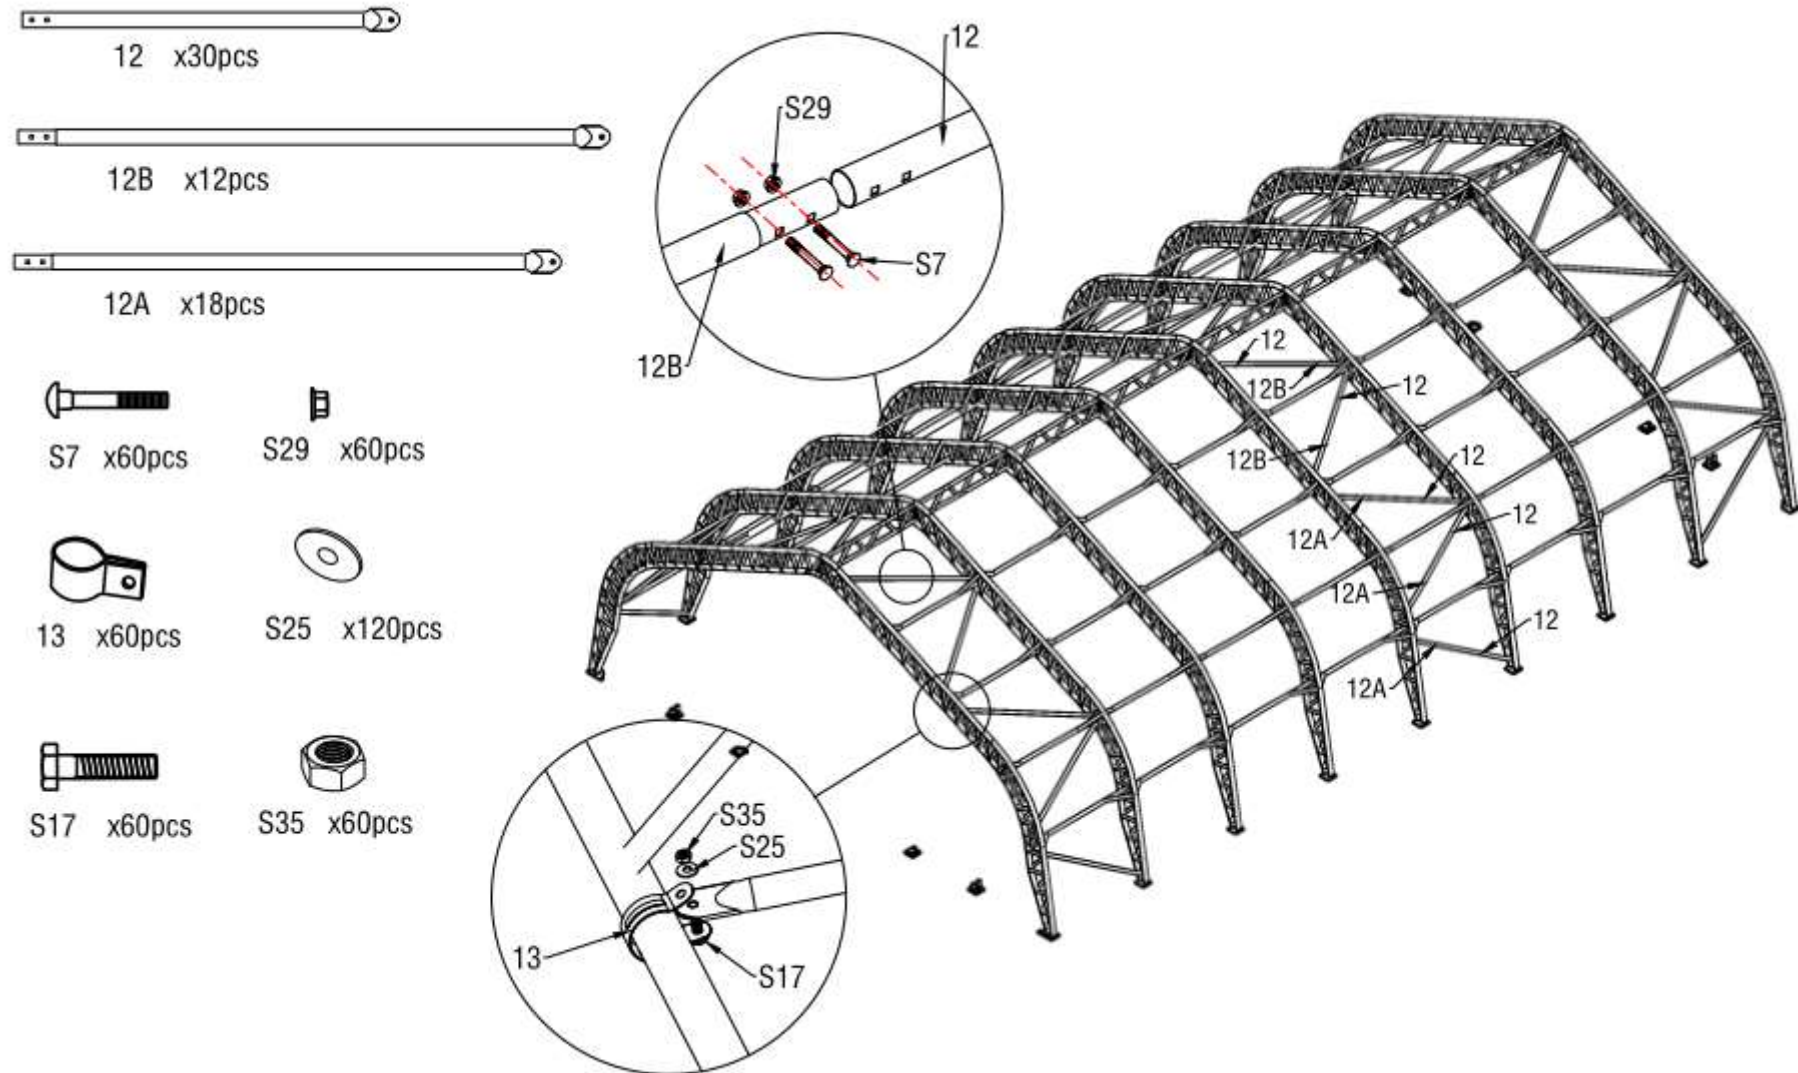

Figure 10
6. As figure 10 shown to find Diagonal Support Female Tube(No.12A&12B) and Diagonal Support Male Tube(No.12) and assemble every group support tube with Carriage bolt M8x60(No.S7) and flange nut M8(No.S29). Then connect the diagonal support tube to arch by using clip(No.13).